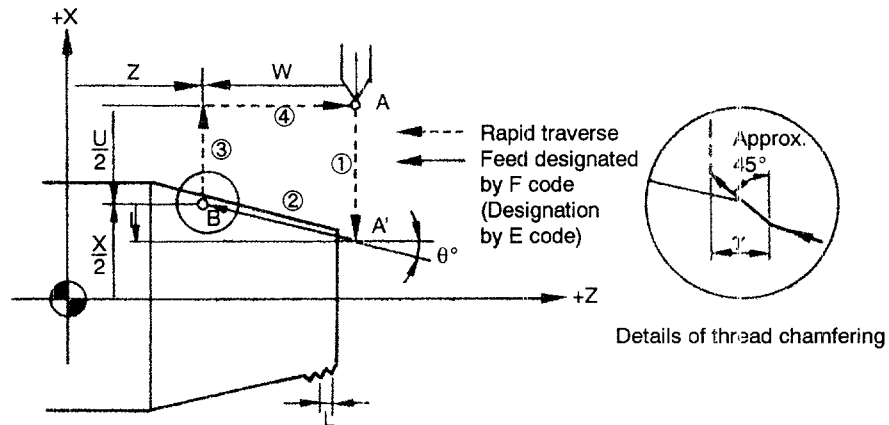

Fig. 4.10 Tapered Thread Cutting Cycle
With the commands of “G92 X(U) ··· Z(W) ··· I ··· F(E) ··· ;” tapered thread cutting cycle of ① to ④ as shown in Fig. 4.10 is executed.